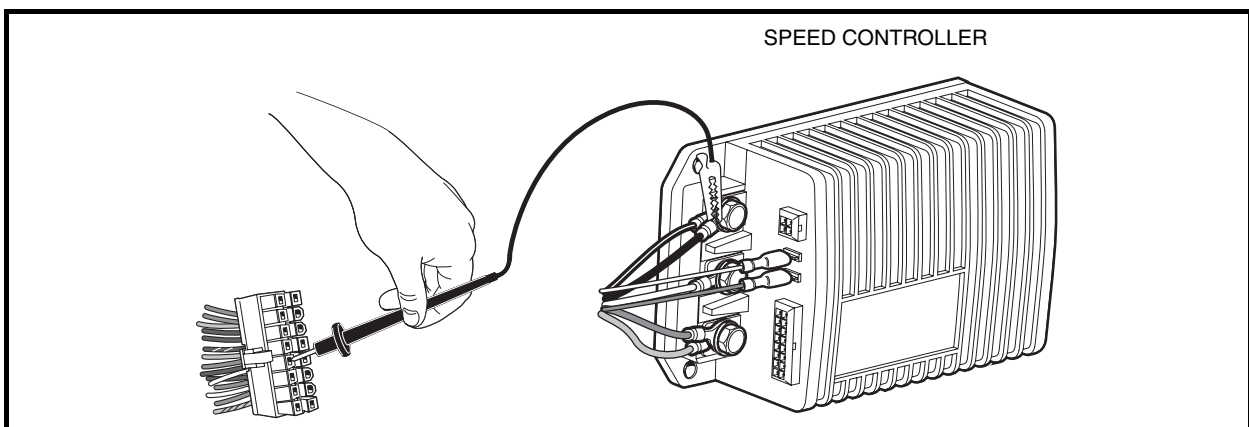

Figure 21-12 Pin 12 Test
4. Place a jumper wire with an alligator clip between the B– terminal of the speed controller (use alligator clip for this connection) and pin 12 (blue/white wire) of the 16-pin connector (**Figure 21-12, Page 21-27**). **See following CAUTION.**